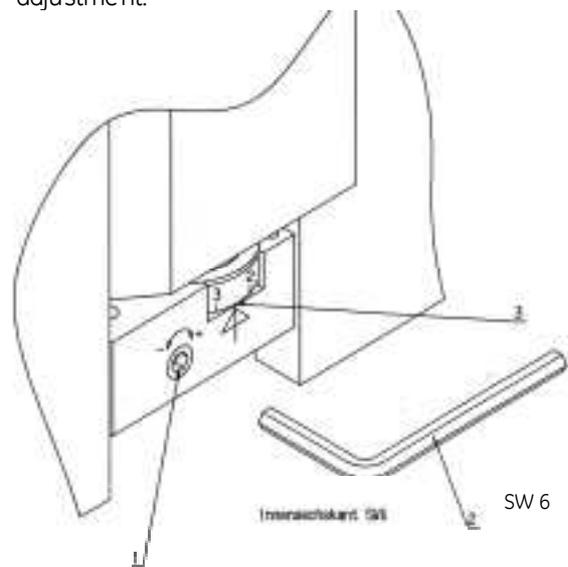

Fig. 3 Setting of the OCT unit
- If equipped with an adjustable OCT, the response threshold can be easily adjusted [Fig.3], by turning the adjustment nut **1** with a SW6 hexagon wrench.